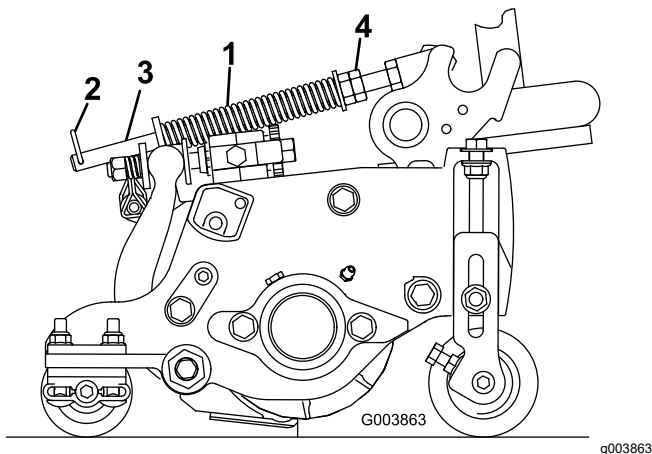

Figure 39
The turf-compensation spring (Figure 39) transfers the weight from the front roller to the rear roller. This helps to reduce a wave pattern in the turf, also known as marcelling or bobbing.
1. Make sure that the hairpin is installed in the rear hole in the spring rod (Figure 39).
2. Tighten the hex nuts on the front end of the spring rod until the compressed length of the spring is 15.9 cm (6.25 inches); refer to Figure 39.